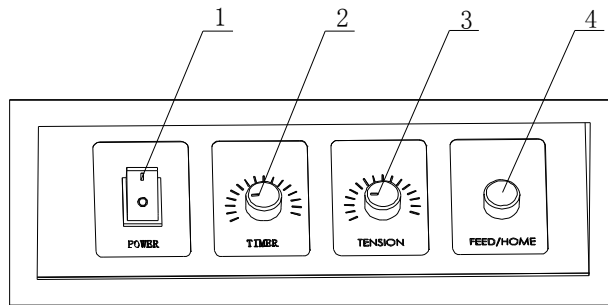
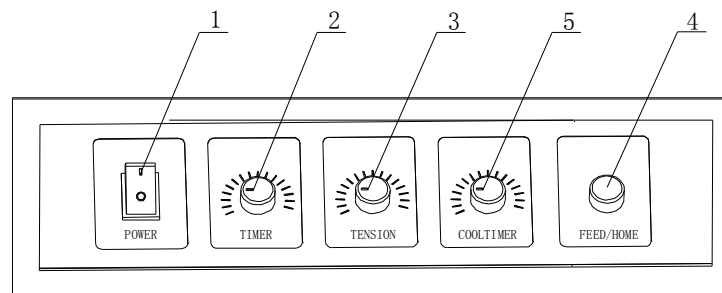

FIG 3-1
FIG 3-2
### 3-1 Functions of control panel (FIG 3-1 and FIG 3-2)
- ② Switch on the power switch 1 indicated in FIG 3-1 or FIG 3-2.
- ③ Put the object to be strapped onto the machine, close to the barrier.
- ④ Make the strap wrap around the object and insert it along the strap slot, then the machine will strap automatically.